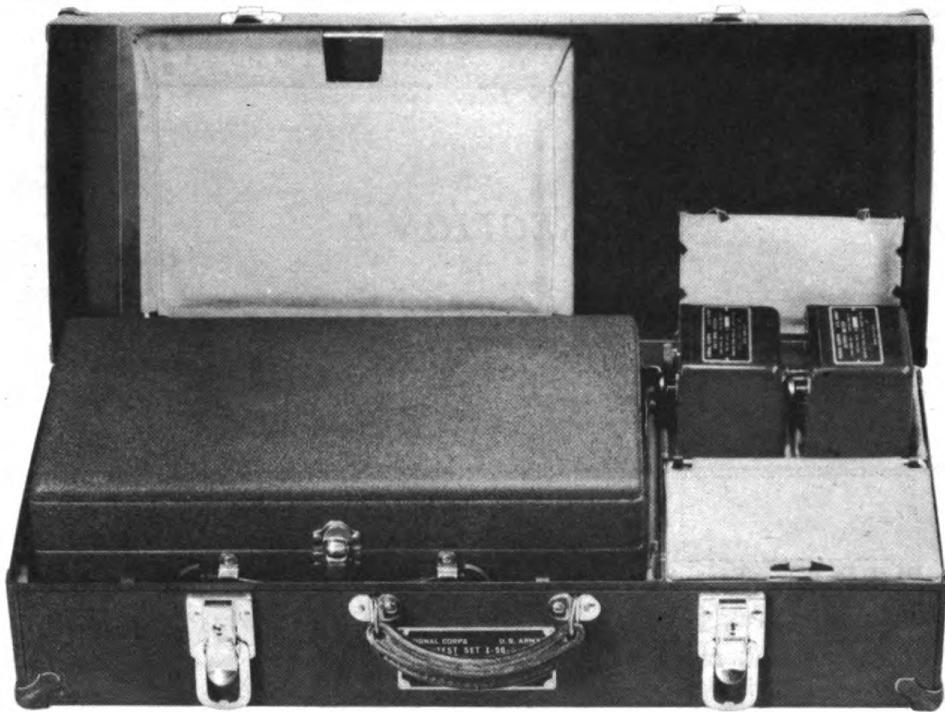

FIG. 1. TEST SET I-56-(*) WITH COVER RAISED TL-7380
- 2. GENERAL.** Test Set I-56-(*) consists of a combination tester, a volt-ohm tester, an output meter, accessories, and a steel carrying case (fig. 1). Model numbers of the components differ since Test Sets I-56-C and I-56-J were made by one manufacturer and Test Sets I-56-D and I-56-H by another. Test Sets I-56-C and I-56-J are practically identical. Test Sets I-56-D and I-56-H are identical. Differences are specifically explained in the text.